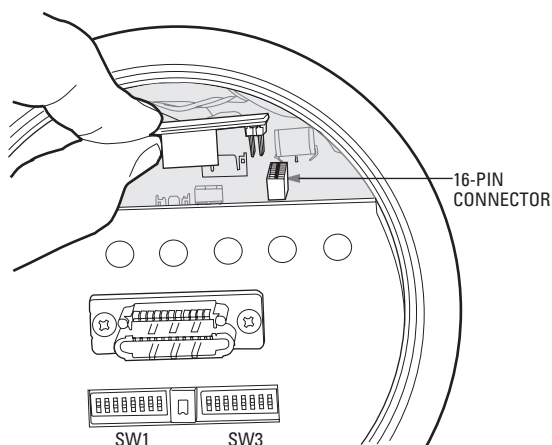

Figure 19. Installing the TXB-V into the ExSite
- Install the TXB-V board on the power module (refer to Figure 19 on page 20):
7. Set the DIP switches on the ExSite system (refer to Figure 19 for switch location):